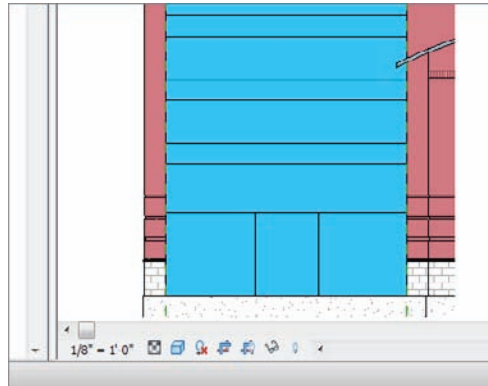

FIGURE 16.33 Chopping up the panel
18. Copy the grid to the right 6'-0" (1600mm). Your wall should now look like Figure 16.33.